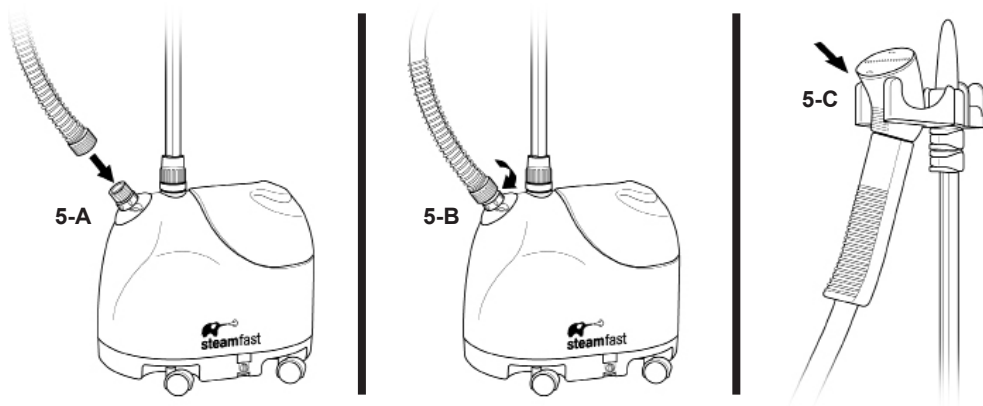

FIGURE 5
1. Place end of Hose onto threaded Hose Base (FIGURE 5-A).
2. Rotate coupling in clockwise direction until Hose is tightly secured onto Hose Base (FIGURE 5-B). Hand tighten only. Do not over-tighten.
3. Hang Steam Nozzle on specially designed Steam Nozzle Cradle (FIGURE 5-C).